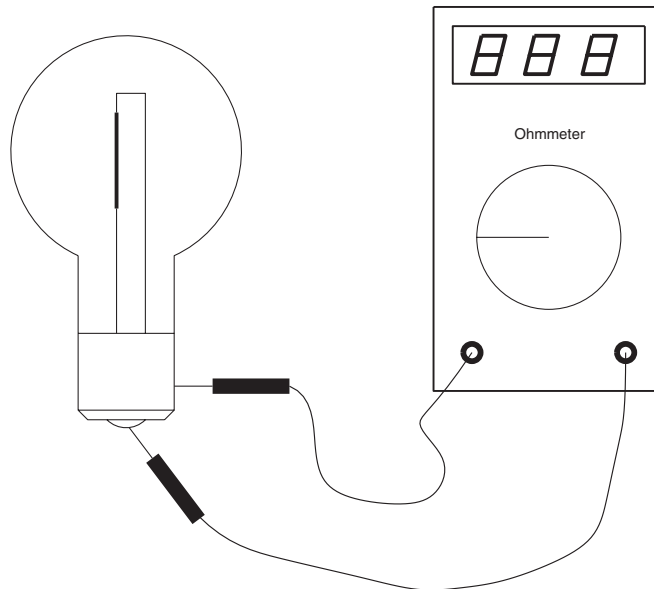

Figure 2-1 Measuring filament resistance with an ohmmeter.
1. Use an ohmmeter to measure the filament resistance of a 40 watt, 120 volt lamp. The lamp should be at room temperature when the measurement is made. To make the measurement, zero the ammeter (if necessary) and connect one probe to the screw shell of the lamp and the other to the button on the bottom of the lamp (Figure 2-1).